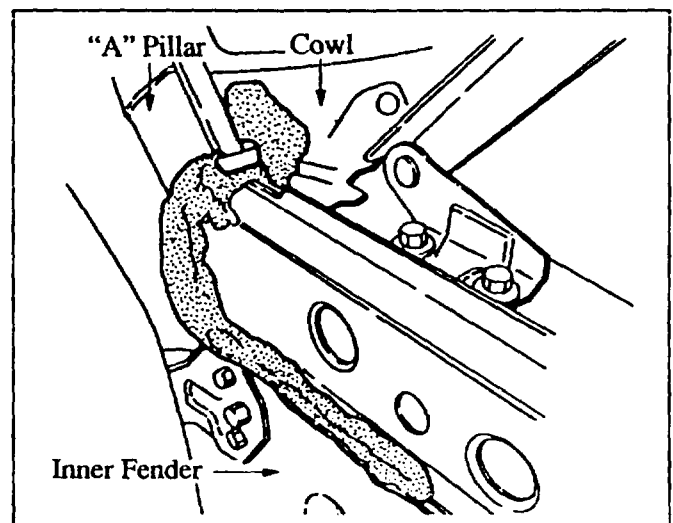

Figure 9: View of Adequate Body Sealer
- Lift carpet and pad, and feel for water. If water is present, remove windshield wipers and cowl plate. Check for missing sealer or holes among the lower "A" pillar-to-cowl seam. Apply sealer to any suspected areas. Figure 9.
- Remove the door jamb nut and bolt, also remove the four (4) upper fender bolts. Using a mechanics mirror, inspect sealer hidden by the upper fender for skips and pinholes. Figure 9.